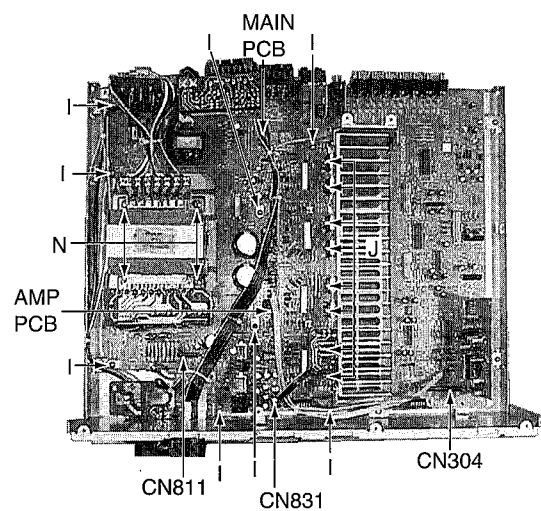

Fig.7
3. Disconnect the wire CN811 on the MAIN P.C.Board. (Fig.7)
4. Disconnect the wire CN304 on the INPUT P.C.Board. (Fig.7)
## (7) MAIN P.C.BOARD Removal (Fig.7,8)